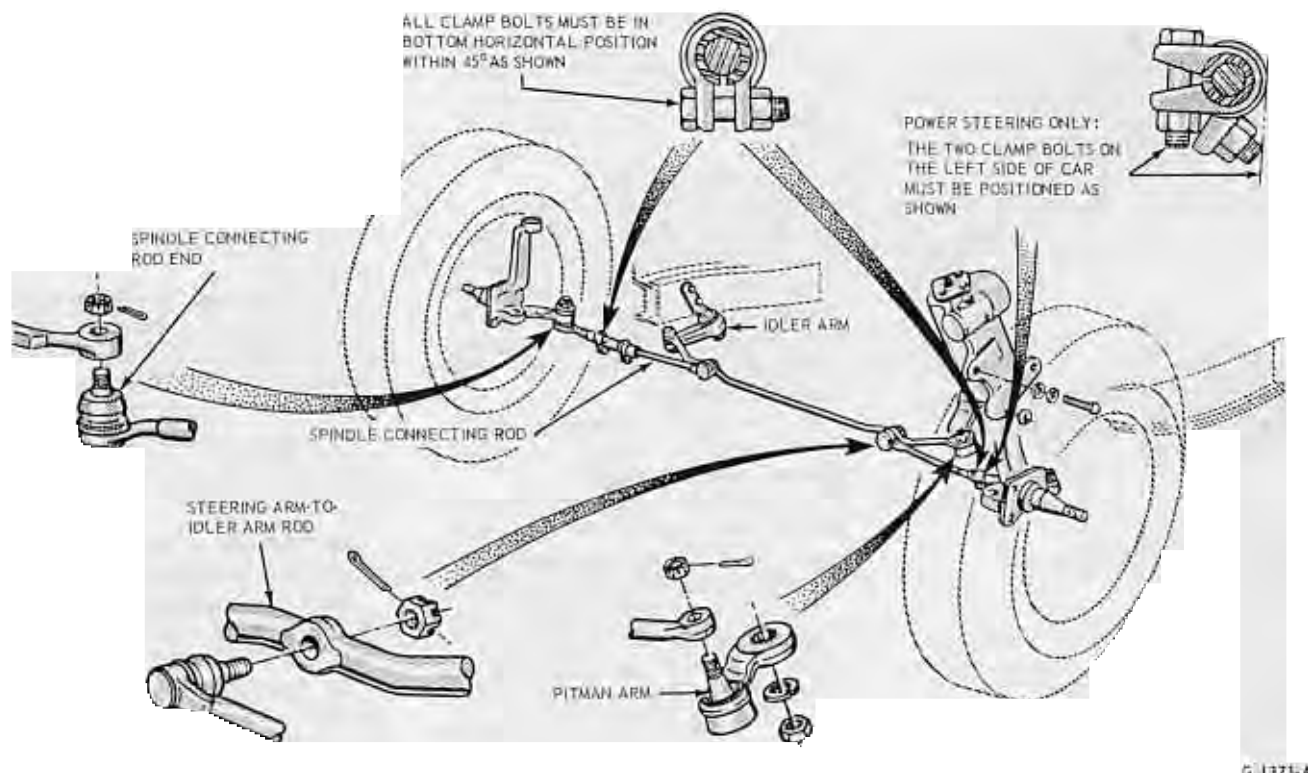

FIG. 13—Typical Steering Linkage—Comet, Falcon, and Fairlane
The manual steering linkage (Figs. 13, 14, and 15) consists of the Pitman arm, the steering arm-to-idler arm rod, the steering idler arm, and the spindle connecting rods (tie rods). **Do not attempt to straighten bent linkage; use new parts.**
6. Check and, if necessary, adjust toe-in (Part 3-1). **After toe-in is checked and adjusted, torque the old sleeve clamp bolts to specification. Add four pounds torque if new bolts are used.** The tie rod sleeve clamps must be installed as shown in Fig. 13, Part 3-1, to prevent interference with the side rail.
A spindle sleeve should be replaced if it becomes worn or damaged (Figs. 13, 14, and 15). **Do not attempt to straighten the sleeve if threaded portion is damaged.**
The rod connecting the Pitman arm and the idler arm is non-adjustable and is provided with tapered holes to accommodate the ball studs (Figs. 13, 14, and 15). The rod should be replaced when damaged or when worn at the ball studs.
2. Remove the 2 cotter pins and nuts retaining both spindle connecting rod ends to the steering arm-to-idler arm rod (Fig. 13).
1. Raise the car and remove the cotter pin and nut retaining the idler arm to the steering arm-to-idler arm rod (Figs. 13, 14, and 15).